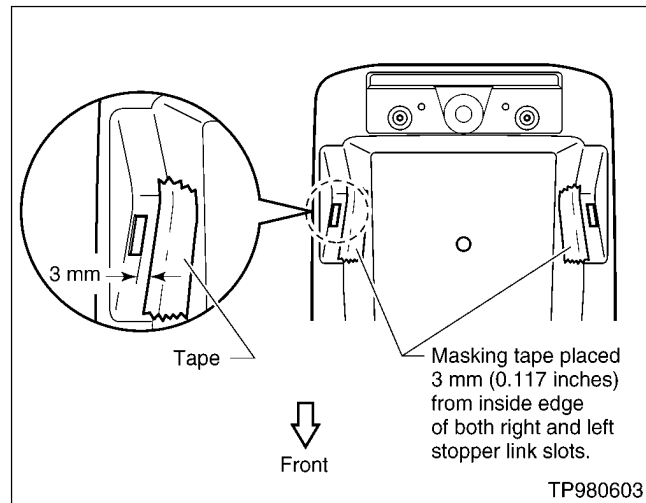

Figure 2
- A. Place a piece of masking tape 3 mm (0.117 inches) from the inside edge of both the right and left slot (see Figure 2).